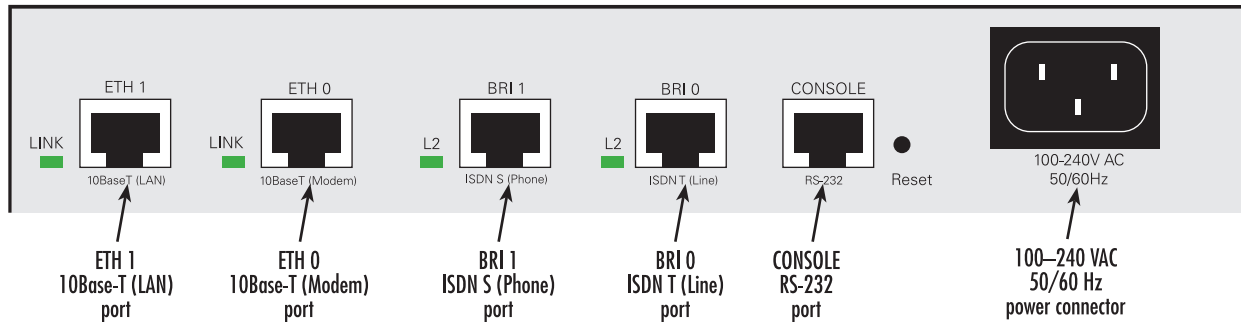

Figure 36. SmartNode 1200 connectors
1. Installing the 10Base-T Ethernet cable into ports *ETH 0* and *ETH 1* (see figure 36) (see “Installing the Ethernet cables” on page 71).
1. Insert the barrel type connector end of the AC power cord into the 100–240 VAC power connector (see figure 36).